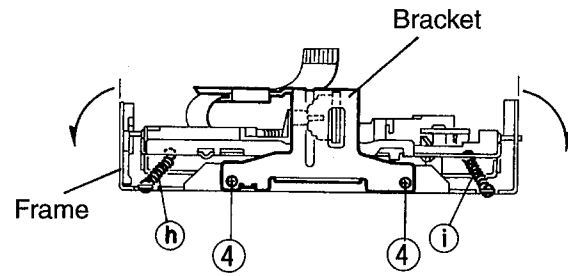

Fig.16
- 1.Remove the two screws ④ retaining the bracket for fixing the damper(See Fig.16)
- 3.Remove the two springs ⓗ and ⓘ as shown in Fig.10 and Fig 16.